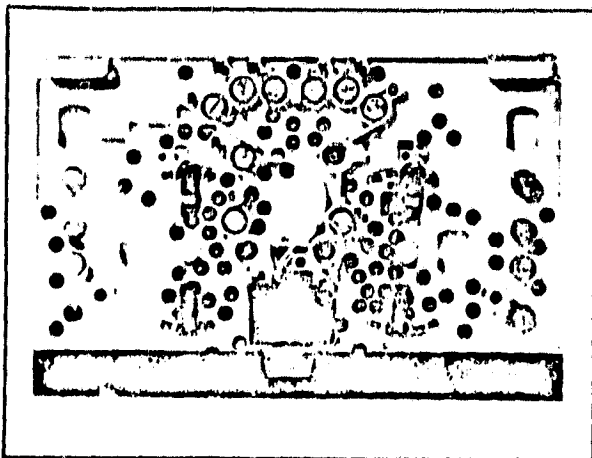

FIG. 13—CONNECTING 135734A LEADWIRES.
1. Route 1 indicator light leadwire to the R or RH subbase terminal, and fasten beneath the terminal screw (Fig. 13).